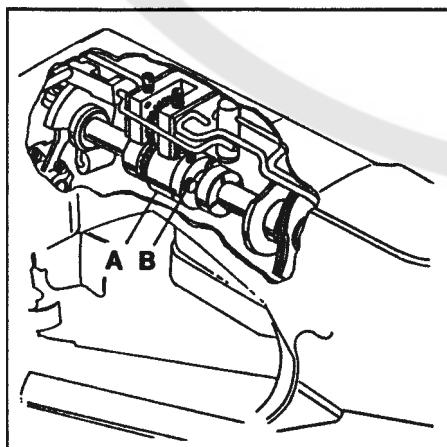

FIG. 10
If the setting cannot be achieved, main shaft coupling (A, Fig. 10) must be repositioned. Remove the crank chamber cover and gasket. Loosen the three coupling screws (B). If synchronizing rod (F, Fig. 9) moves more to the right while the handwheel is rotated in a clockwise direction, the looper is too fast and the main shaft should be retarded. If the rod moves more to the right when the handwheel is rotated in a counterclockwise direction the looper is too slow and the mainshaft should be advanced. Tighten screws (B, Fig. 10).